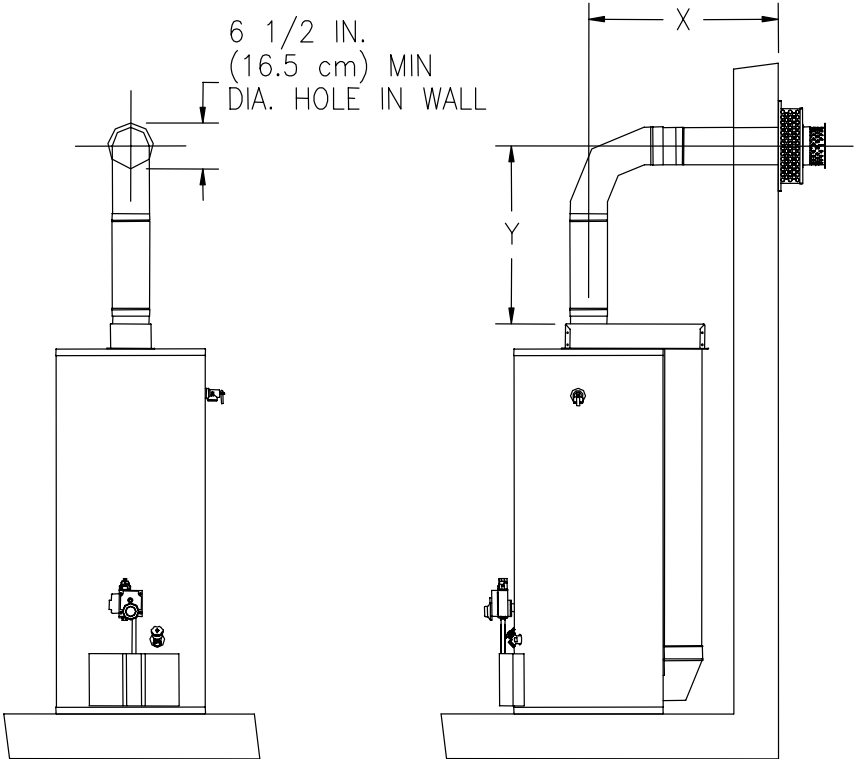

Figure 7.
1. Measure the vertical height "Y" required in your installation. (See Figure 7). Reference the appropriate Table A to determine number of vent-air intake kits required in your installation.
2. Measure the horizontal length "X" required in your installation (See Figure 7). Reference Table A to determine number of vent-air intake kits required in your installation.